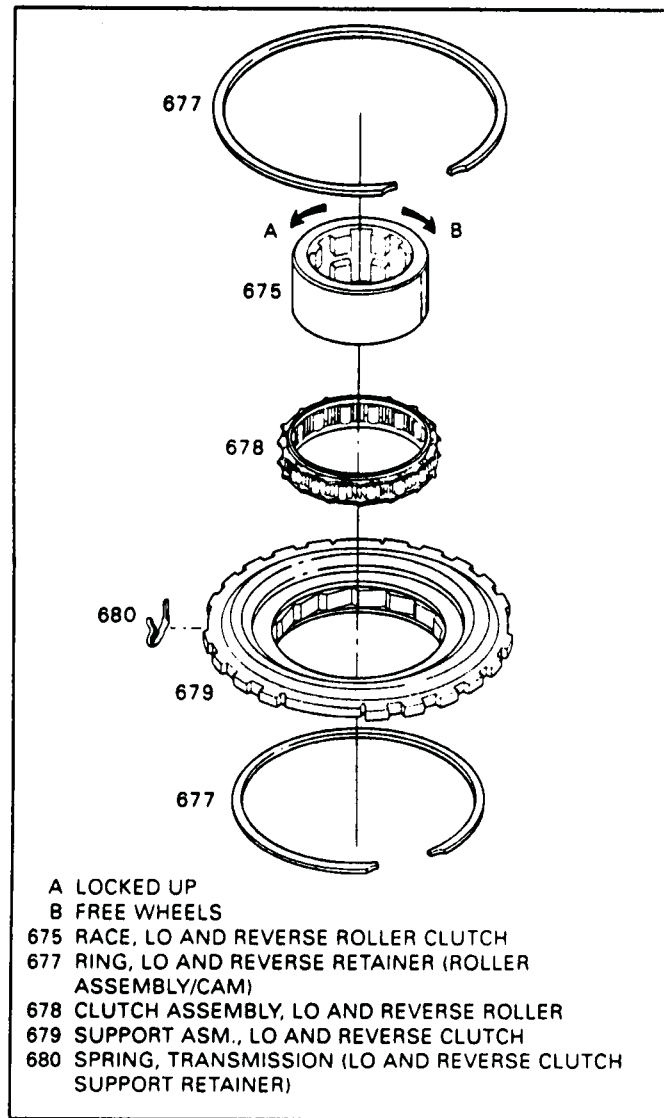

Figure 75
6. Check for proper operation by rotating the inner race as shown in Figure 75.
7. The inner race should lock when turn counterclockwise and should freewheel when turned clockwise (See Figure 75).